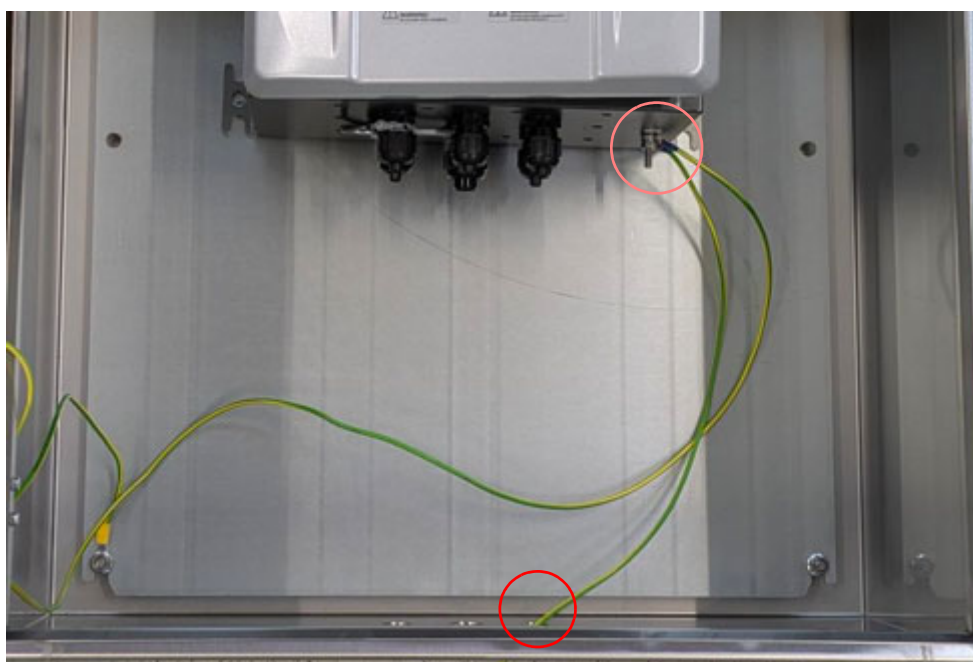

Fig. 16: Grounding the stainless steel enclosure
- 1 In order to ground the stainless steel enclosure, the loose grounding cable inside has to be connected to the appropriate location at the Interface Unit as marked in → Fig. 16.